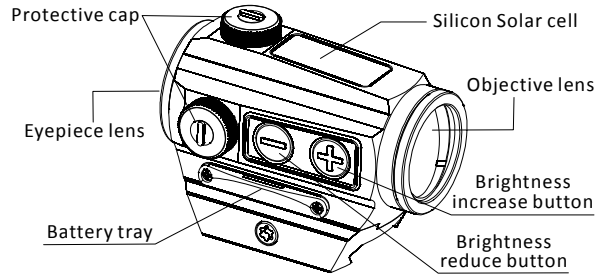

Fig1 PARALOW HS403C Red Dot Sight
- First open the protective cap (see Fig1), position slot type screwdriver on the slotted screw, then rotate the screw to right or left for adjustment. Each left or right click is for one adjustment equivalent to 0.5MOA value.